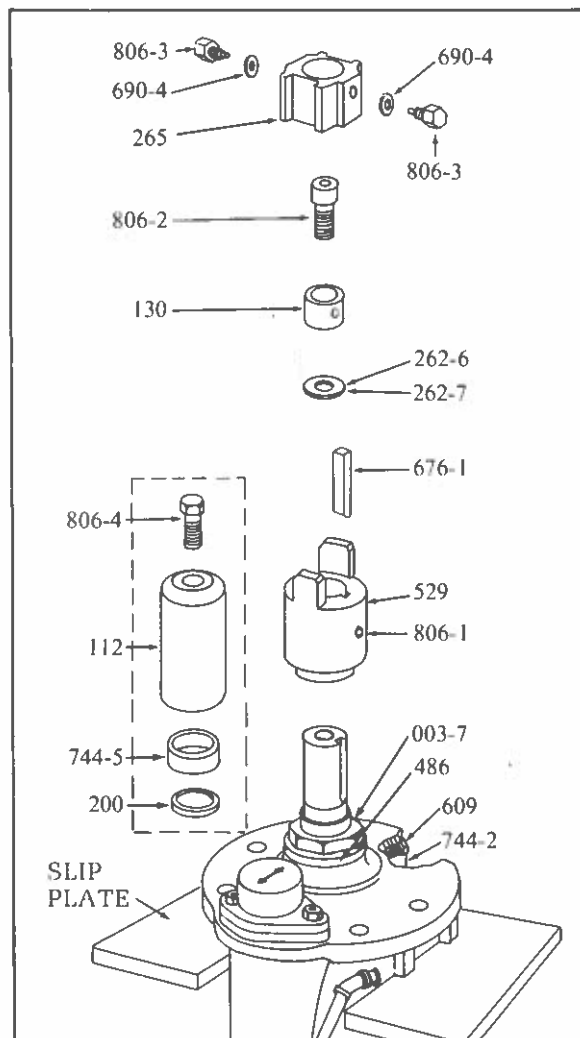

Figure 10 — Motor Half Coupling Components
11. Refer to Figure 10. Install motor half coupling (529):
- (d) Install socket head set screw (806-1) through its hole in the coupling (529) to engage its hole in the shaft. Use wrench provided, to tighten set screw (806-1).
- Refer to Figure 10. Identify the shaft adjusting button (130), alignment jig (265), screws (806-3) with washers (690-4), shaft button screw (806-2) and shims (262-6 and 262-7). These pieces are shipped as an assembly.
- Install alignment jig assembly in motor half coupling (265).
- Remove alignment jig (265) and send to storage area for storage in shipping cap (112-1).